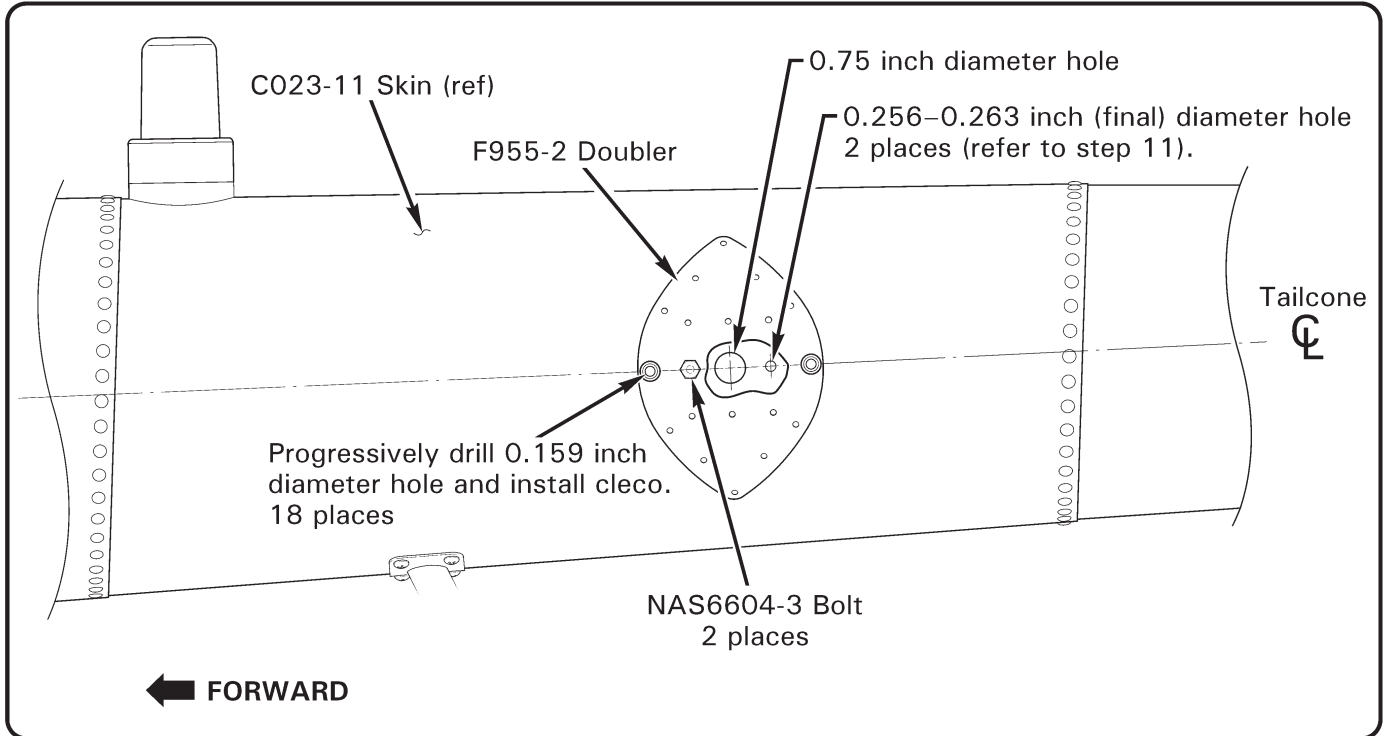

FIGURE 6 Positioning doubler for drilling
10. Refer to Figure 6. Locate (1) F955-2 doubler to tailcone using (2) NAS6604-3 bolts and secure with tape as required. Mark doubler to indicate top & bottom, and left or right side of tailcone. Using doubler as template and a #21 drill fitted with drill stop, begin at center of doubler working outward and progressively match drill 0.158-0.164 inch diameter hole & install clecos thru C023-11 skin (18) places. Remove securing hardware & doubler. Repeat procedure on opposite side of tailcone using remaining doubler.
11. With both doublers removed and using letter “F” twist drill fitted with drill stop, enlarge (2) forward & (2) aft 0.250 inch diameter bolt holes in C023-11 skin to 0.256–0.263 inch final diameter. Deburr all newly drilled holes and clean up debris (strobe light may be removed per MM § 33-11 to facilitate access to tailcone interior).